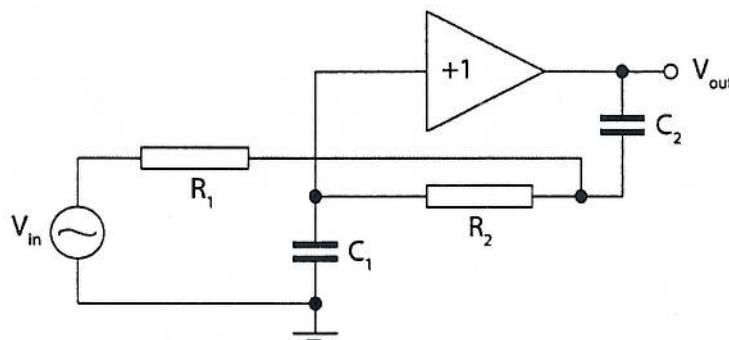

Figure 4.2
v) Figure 4.2 shows a voltage mode Sallen key filter. Using the adjoint principle transform this to its current mode equivalent using CCII+ blocks. [4]